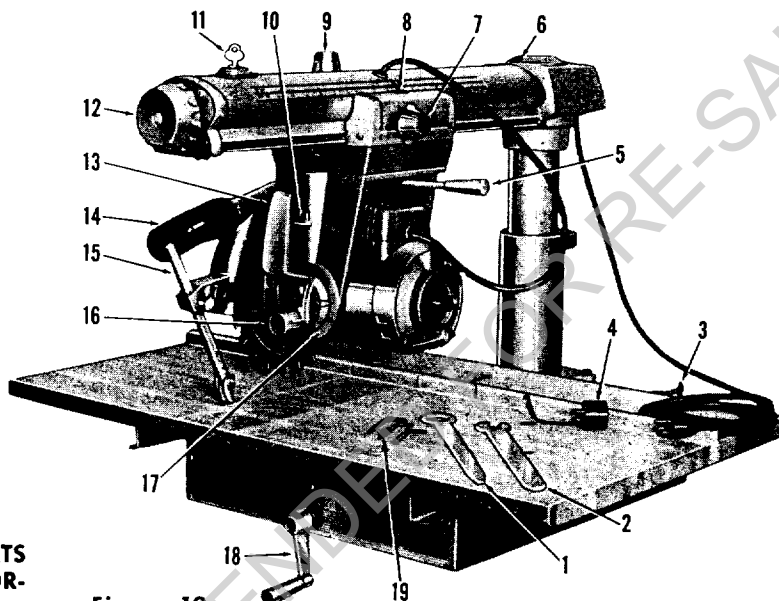
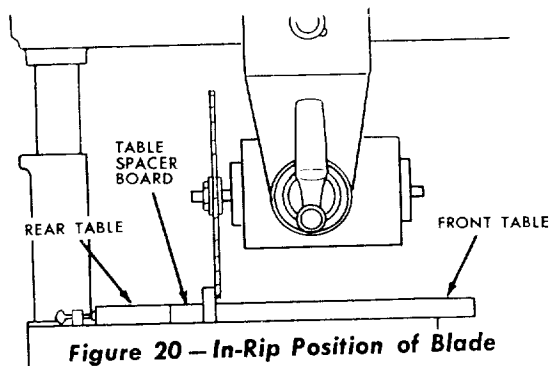

Figure 19
Figure 20 — In-Rip Position of Blade
RAISING AND LOWERING THE RADIAL ARM is accomplished by the elevation crank (Item 18, figure 19). One complete turn of this handle will raise or lower the radial arm $\frac{1}{8}$ ".
LOCKING THE CARRIAGE TO THE RADIAL ARM is accomplished by the carriage lock knob (Item 7, figure 19). Turn the knob clockwise to lock; counterclockwise to unlock.
ANGULAR MOVEMENT AND LOCKING OF THE RADIAL ARM are controlled by the arm latch handle (Item 12, figure 19). The radial arm can be rotated 360° and locked in any position. The arm is unlocked from any position by a slight counterclockwise rotation of the arm latch handle and is locked in any position by rotating the arm latch handle clockwise until tight. The radial arm has positive stops at 0° and 45° left and right, and is released from these index positions by unlocking and pulling out the arm latch handle (Item 12, figure 19). **Due to positive arm locking at the index positions, the arm latch handle may be difficult to pull out. A few turns to the left will release it.**
2. Before moving the radial arm to the desired index position, turn the arm latch handle (Item 12, figure 19) just $\frac{1}{4}$ turn counterclockwise from the locked position.
MOVEMENT AND POSITION OF THE MOTOR IN THE YOKE are controlled by the latch pin handle (Item 10, figure 19) and bevel lock knob (Item 16, figure 19). The bevel scale indicates the angular position of the motor with respect to the horizontal from 0° to 90° in either vertical position. The latch pin handle automatically indexes the motor at 0°, 45°, and 90° up and down. Lift to release. At any other position the latch pin handle is not engaged. The bevel lock knob locks the motor to the yoke when the motor is in any position. Locking is clockwise; unlocking is counterclockwise.
MOVEMENT AND POSITION OF THE YOKE are controlled by the swivel latch pin knob (Item 9, figure 19) and the yoke clamp handle (Item 5, figure 19). The swivel latch pin automatically indexes the yoke at each 90° position and two 45° positions. Lift to release. The yoke clamp handle locks the yoke to the carriage in any position. Pull to release. Push to tighten. When "In Ripping" it may be desirable to have more free table in front of the saw blade than is obtainable when the radial arm is at the 0° position. With the blade in the normal cross-cut position index the radial arm to 45° left and lock it. Then loosen the yoke clamp handle and index the yoke 45° clockwise. Reclamp the yoke clamp handle. The added free table space is now to the right of the blade and ripping should be done from the right side of the table. The reverse is also true for "Out Ripping" by indexing the radial arm 45° right and indexing the yoke 45° counterclockwise. The added table space is now to the left of the blade and ripping should be done from the left side of the table.
Move the motor along the radial arm until the blade, when spun by hand, just touches the front face of the fence (See Figure 20). The indicator (Item 8, figure 19) on the "In-Rip" scale should now read 0. If not, loosen the two indicator screws slightly and readjust. Retighten the two screws.